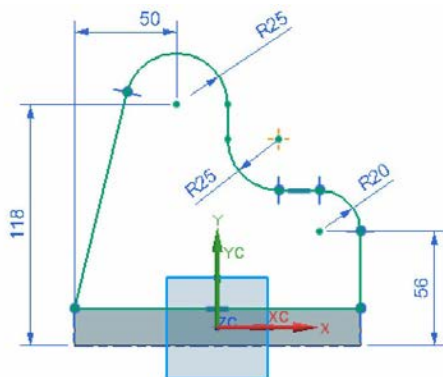

Figure 6-82 Sketch for the second feature
- Draw the sketch for the second feature and extrude it, refer to Figures 6-82 and 6-83.
2. Draw the sketch for the second feature, refer to Figure 6-82.